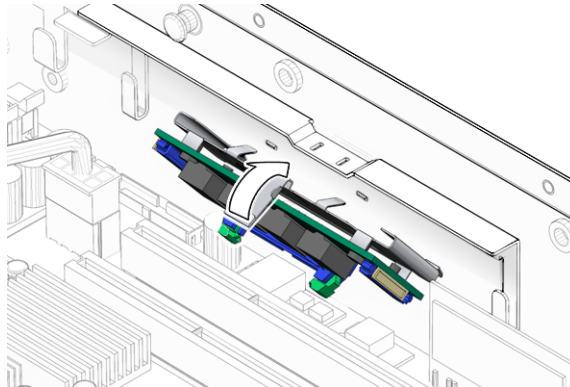

FIGURE 5-21 Swinging the Alarm Board Into Place
3. Swing the alarm board up to the chassis wall until it clicks into place (FIGURE 5-21).